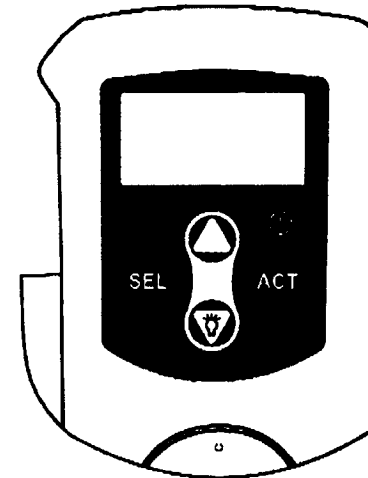

FIGURE 6 - 1: Continuous Glucose Monitor Control Panel
The Continuous Glucose Monitor is controlled by pressing five (5) control buttons. Figure 6 - 1 shows the Monitor operating control panel and the display window. In order to program and operate the Monitor successfully, always press the buttons slowly and firmly. The word "press" should be taken to mean "press and release" unless otherwise specified. A slight ticking sound can be heard and a depression felt when a button is pressed correctly.